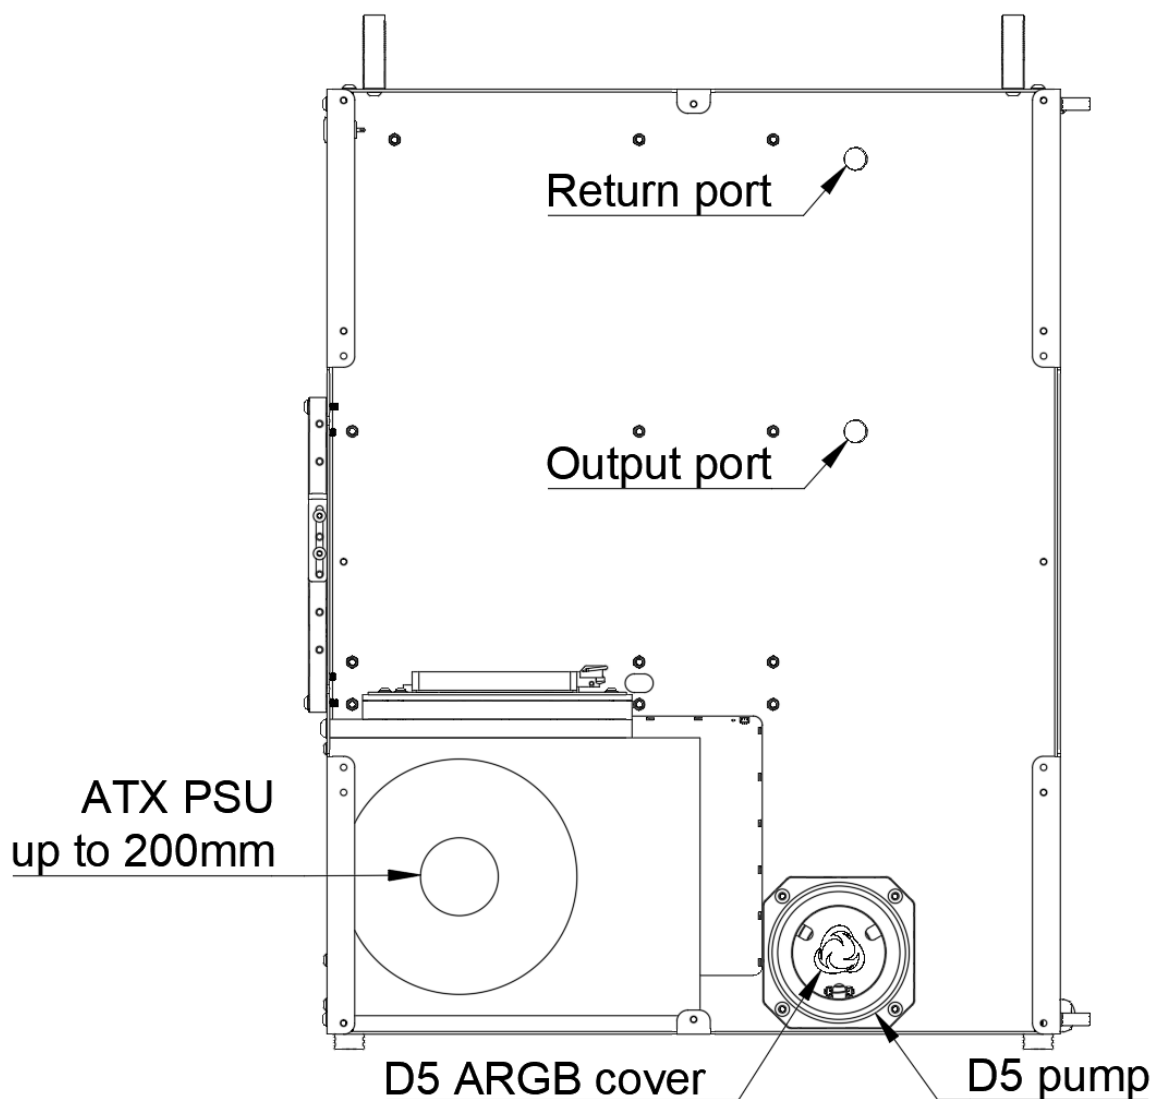

Figure 7A
- **Step 7A:** Install an ATX power supply up to 200mm long and secure it with #6-32 0.25" BH x4 according to *Figure 7A*.